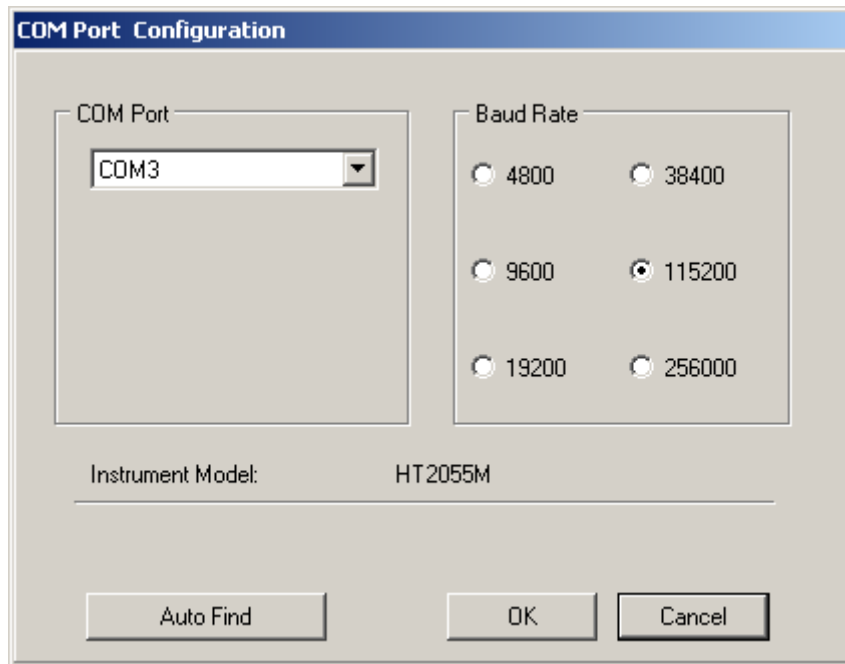

Fig. 37: Connection of the instrument to PC
8. Select the “**Config → COM Port...**” command and click on the “AutoFind” button to start the automatic detection of the instrument (see Fig. 37)